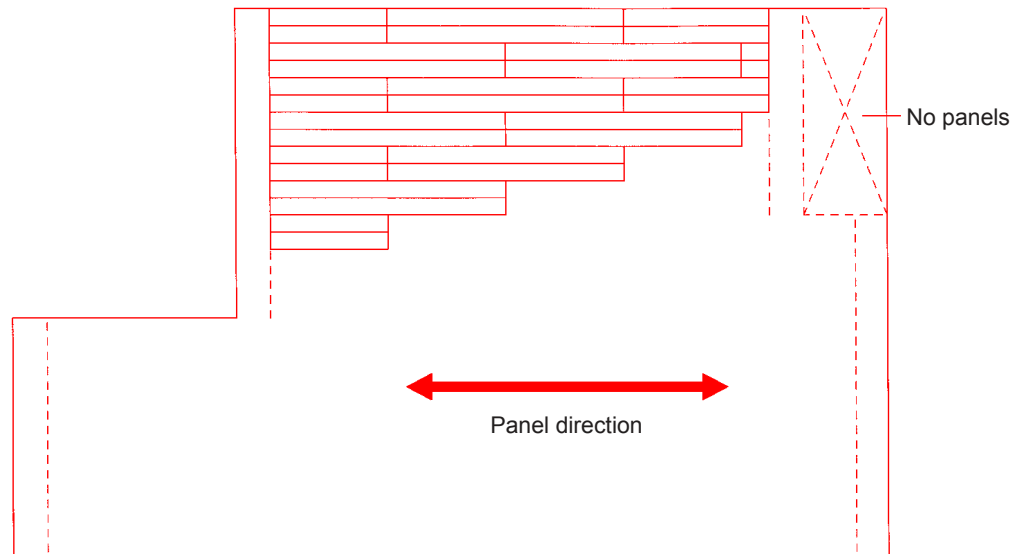

Figure 19: Stagger panels so seams do not line up.
3. To improve structural integrity, stagger the panels in each row so the seams are not lined up next to each other. If you have to cut the last panel in the first row, you can use the other cut piece to start the second row. As an alternative, you may cut a panel in half and begin the second row. Continue this staggered pattern throughout the installation (see **Figure 19**).